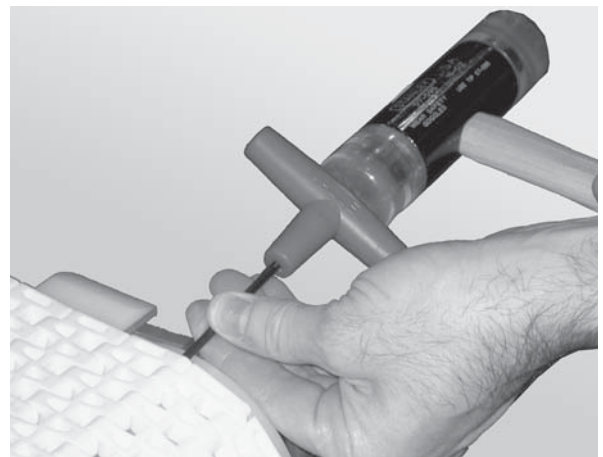

Figure 46
2. Use a punch and hammer to push the belt rod out by striking the rod end opposite the retaining head (Figure 46).